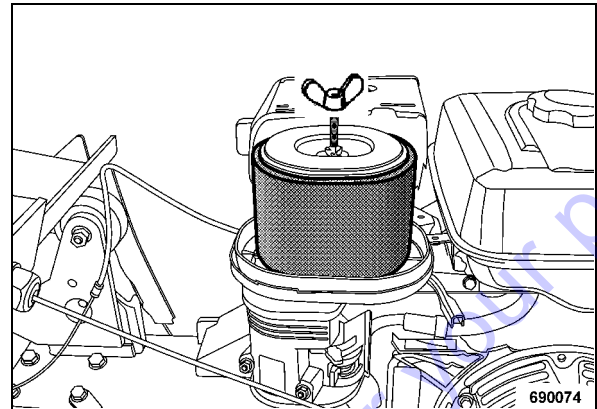

Fig. 56
- Unscrew the wing nut and pull the air filter cartridge out (Fig. 56).